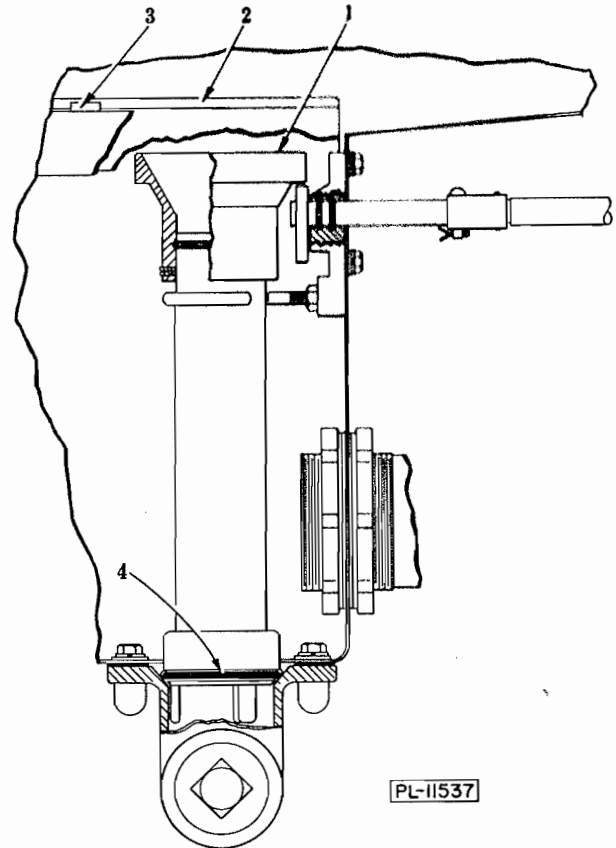

Fig. 4
1) and fill tank to overflow level (1, Fig. 4) (fills strainer pans to 1/2" depth). All filling is through the rinse system.
C.1.2 Place the overflow cover (2, Fig. 4) and the two clean strainer pans (3, Fig. 4) into position.
C.4.4 Take out the strainer pans (3, Fig. 4) and empty contents into garbage can or disposer. Wash and rinse strainer pans thoroughly, allow to dry and then install into dishwasher.
C.4.7 See maintenance section (D) for cleaning wash arms, rinse nozzles, etc.
E.1.1.1 Water may be lost through improperly closed drain due to obstruction or damaged "O" ring. Remove obstruction or replace damaged "O" ring (4, Fig. 4).